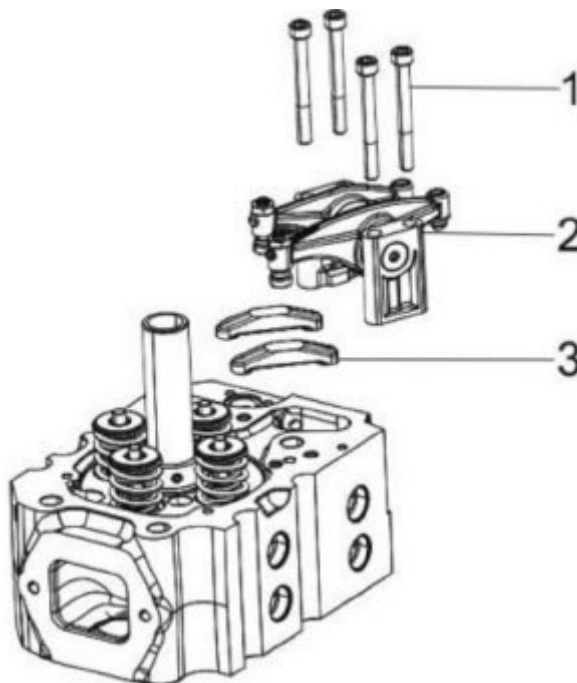

Figure 46. Rocker Arm Assembly
1. Remove the bolts (Figure 46, Item 1) that retain the rocker arm shaft support.
2. Remove the rocker arm shaft assembly (Figure 46, Item 2) from the cylinder head.
3. Remove the valve bridge (Figure 46, Item 3).